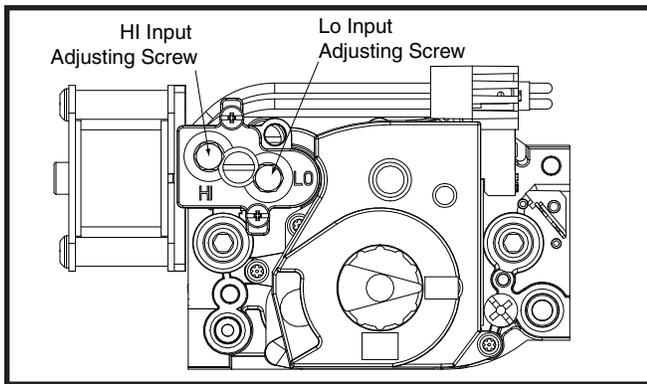

Figure 28. HI & LO Input Adjusting Screws
- c.) Using an Allen wrench, turn the the LO Input Adjusting Screw on the LO side of the regulator to adjust the reduced input setting or turn the HI Input Adjusting Screw on the side of the regulator to adjust the full input setting. **NOTE:** Turning the adjusting screw clockwise increases the pressure and counterclockwise reduces the pressure. See Figure 28 (page 29).